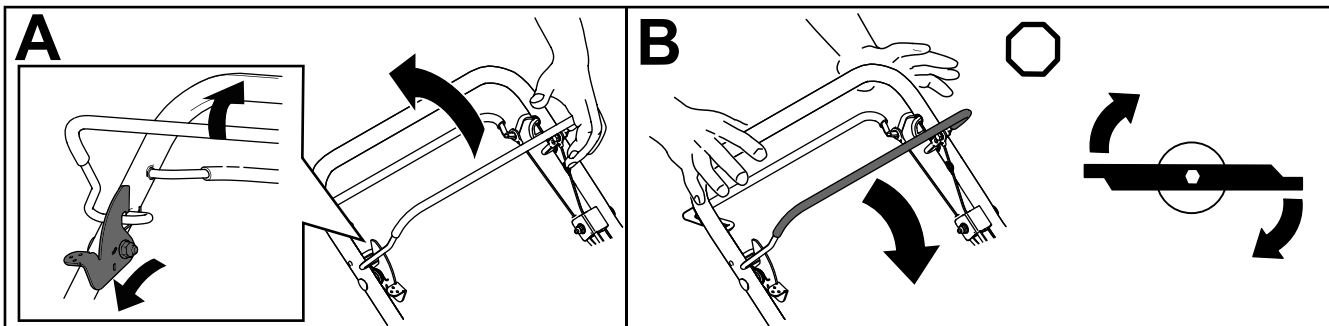

Figure 16
1. Push and hold the blade-control lock lever forward to release the blade-control bail (A of Figure 16).
2. Pull the blade-control bail to the handle and release the blade-control-lock lever; the blade should engage (A of Figure 16).
3. Release the blade-control bail to disengage the blade (B of Figure 16). The blade-control-lock lever resets to lock the blade-control bail.